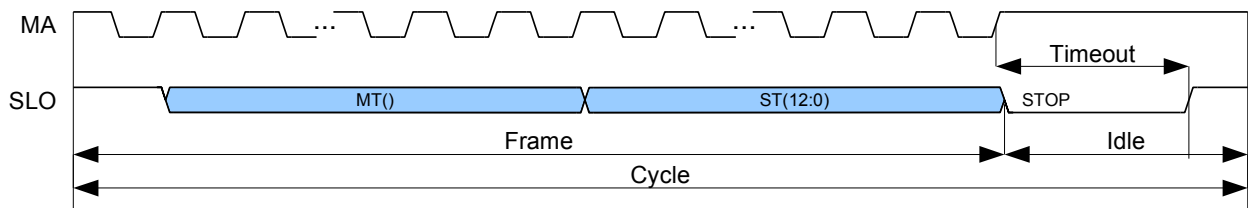

Figure 30: Standard SSI protocol
According to Table 60, the standard SSI protocol format includes the multiturn (MT) and singleturn (ST) position. The ST data length has to be set to exactly 13 bit via **BISS_ST_DL**. The MT data length has to be set to either 0 or 12 bit via **BISS_MT_DL**. A transmission using the standard SSI protocol is shown in Figure 30.